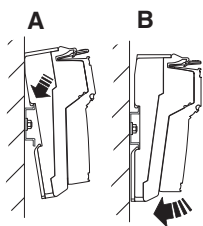

Fig. 10-11 Snapping on the base
- Place the base onto the DIN rail from above (Fig. 10-11, A), then press it down (B).